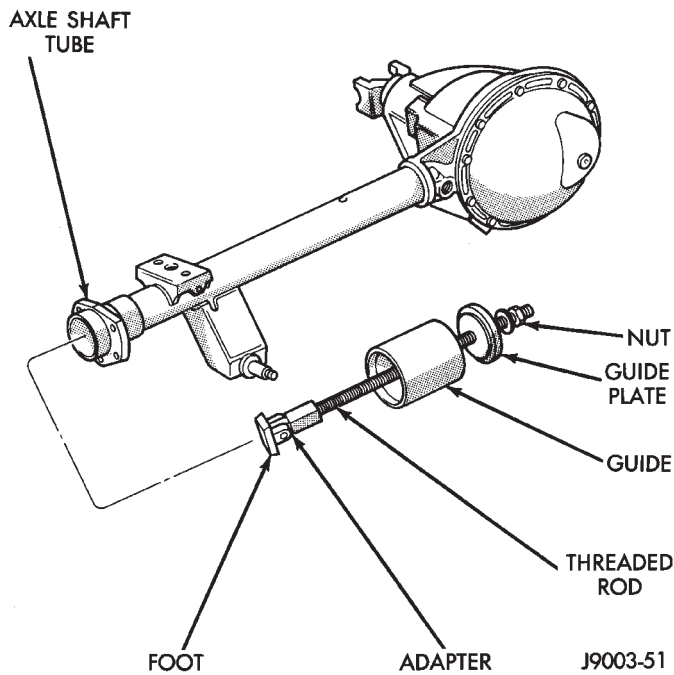

Fig. 8 Axle Shaft Bearing Removal Tool
- (4) Remove the axle shaft bearing from the tube (Fig. 8) with Bearing Removal Tool Set 6310 (T.Ar 960-02).
- (5) Inspect the axle shaft tube bore for roughness and burrs. Remove as necessary.